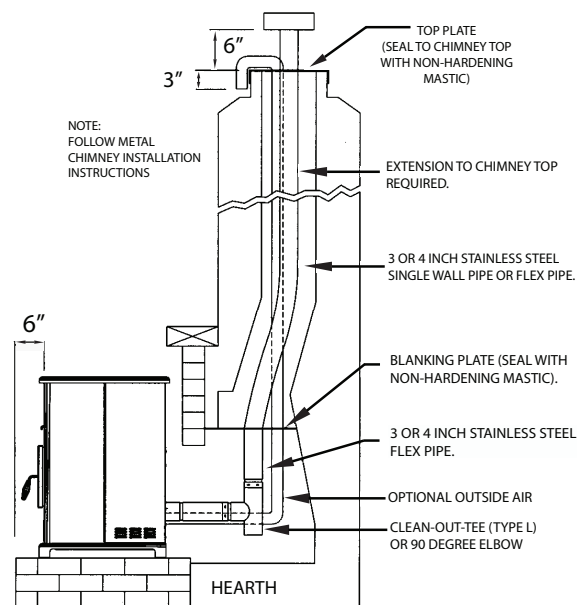

FIGURE 9
3. Install a blanking plate and the chimney pipe, and if used the outside air pipe, as shown in Figure 9